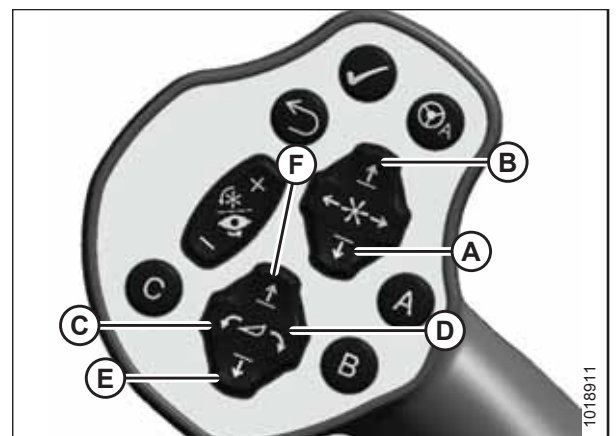

Figure 5.143: GSL
11. Lower center-link (A) onto the header with the REEL DOWN switch on GSL until it locks into position. When this happens, hook release (C) will be in the down position. Refer to Figure 5.143, page 131 for an illustration of the GSL controls.
12. Ensure that the center-link is locked onto the header by pressing the REEL UP switch on the GSL. Refer to Figure 5.143, page 131 for an illustration of the GSL controls.